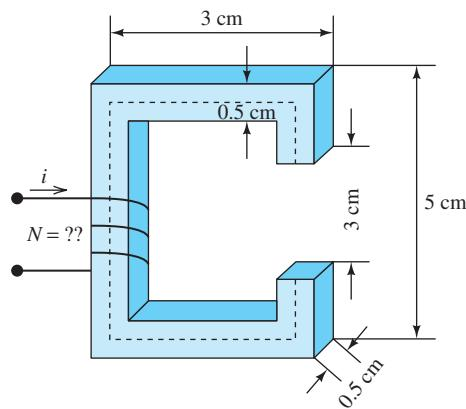

FIGURE P12.23 Magnetic circuit with air gap.
12.23 (H) It is desired that the gap in Figure P12.23 has a flux density of $B = 5$ T. Given $\mu_{r\text{core}} = 2000$ and $i = 3$ A, find the required turns ratio, N .